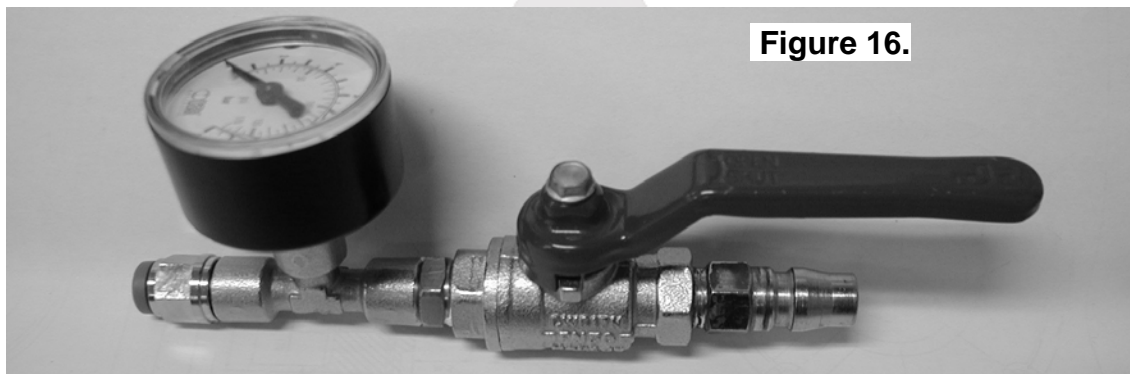

Figure 16.
**NOTE :** An accurate way to test for air leaks is to fit a shut-off valve to an air pressure gauge. (ARB part # 0770005 shown in Fig.16.). Once 620 KPA [90 PSI] is reached close the valve, disconnect the air hose, and watch to see if there is any drop in pressure. If so, this will indicate an air leak.